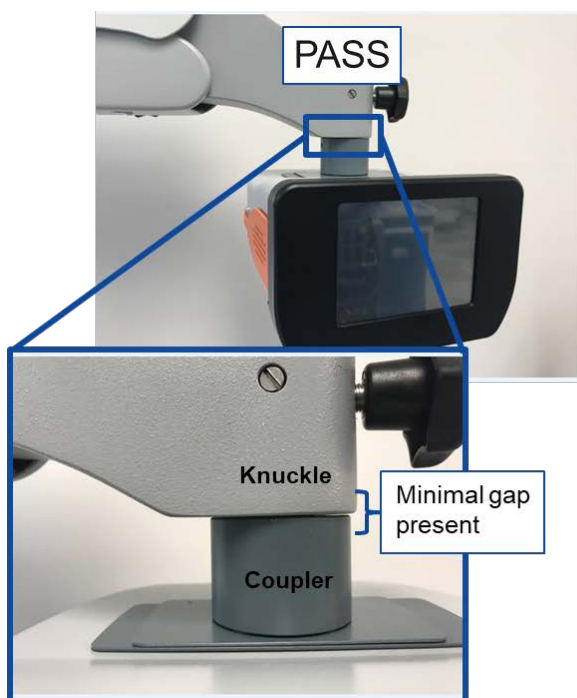

Figure 2: Pass Image
- PASS: Minimal gap between the coupler and knuckle is present. Note that it is acceptable to see minimal light between the knuckle and coupler as shown in the "PASS" image in Figure 2. The gap observed between the coupler and knuckle should be less than the thickness of a credit card (approximately 1/32nd of an inch or 0.76mm).